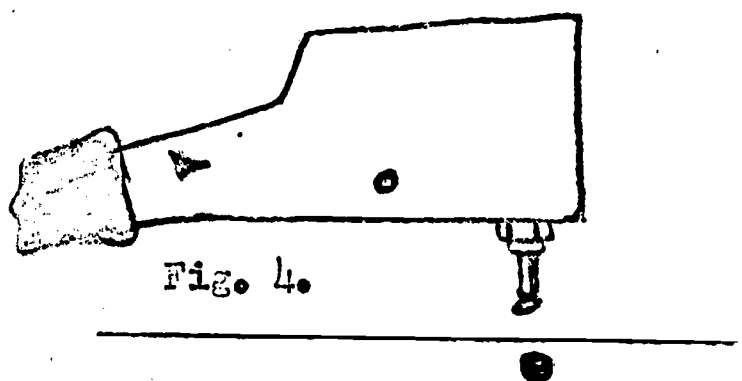

Fig. 4.
3. Insert rivet in hole of work to be fastened. Be sure you have the pieces with 1/8" holes drilled in them. See Fig. 4.